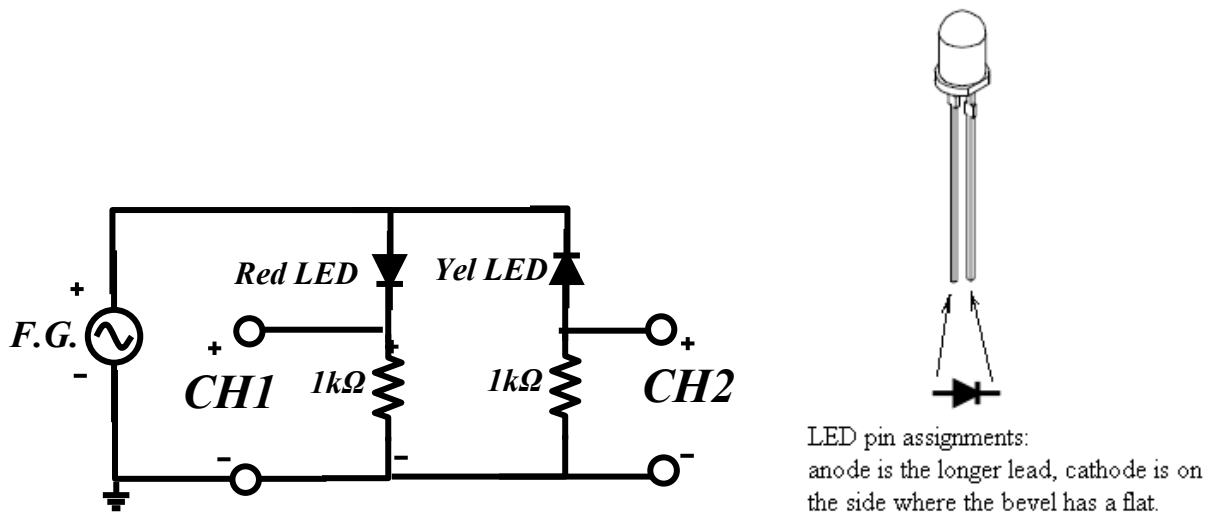

Figure 2
8. Return the amplitude to 5V and connect the circuit of figure 2. The LED is also a diode, especially designed to emit light at certain wavelengths. Set channel 1 and 2 once again to have the same V/div and the same zero reference position. Both LEDs should be on, although probably not with equal brightness.
5. Explain your observations on the LED experiment (Figure 2).